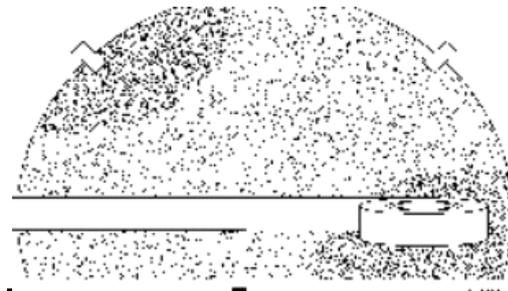

Figure 11. Make a Centre Hinge on an Intricately-Shaped Graphic
1. Use the Centre Hinge Method. Apply a tape hinge across the graphic approximately 1/3 of the distance from the edge. See Figure 11.